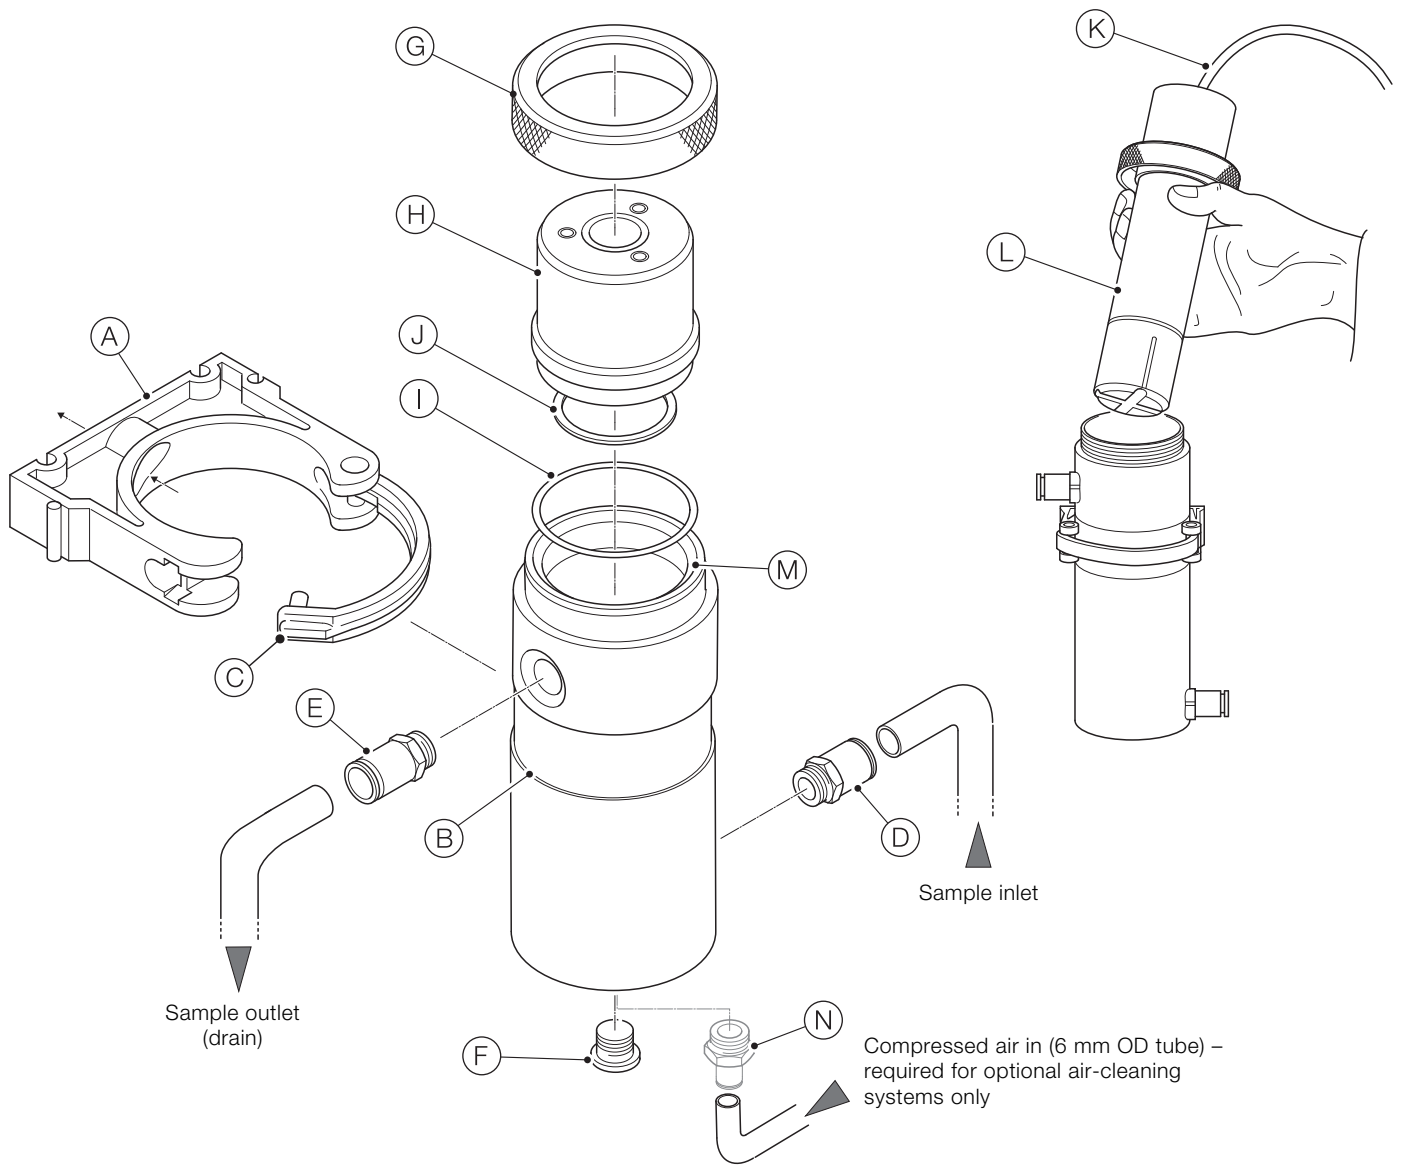

Fig. 4.3 ADS430160 flowcell pipeline mounting assembly – installation
Referring to Fig. 4.3, page 4:
Referring to Fig. 4.3:
Push-fit connectors (inlet / outlet) – see Fig. 4.3, page 4, items (D) and (E)
O-ring – see Fig. 4.3, page 4, item (F)
Gasket – see Fig. 4.3, page 4, item (J)
Bottom plug – see Fig. 4.3, page 4, item (F)